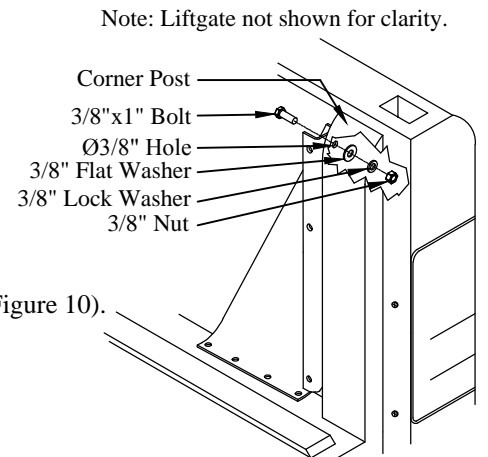

Figure 10: Additional support location.
1. Locate the existing 3/8" hole in the mounting bracket (Figure 10).
- (1) 3/8"x1" hex head bolt on the bracket-side (Figure 10).
- (1) 3/8" flat washer, (1) 3/8" lock washer, and (1) 3/8" nut on the truck-side (Figure 10).